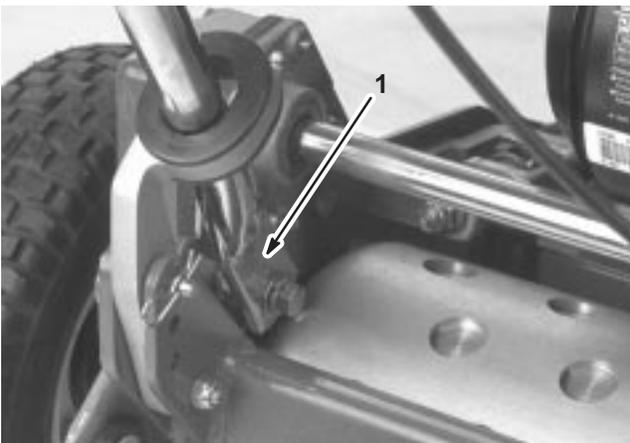

Figure 2
- Squeeze the handle ends inward and install them on the mounting pins (Fig. 2).
- Secure the handle ends to the mounting pins with the capscrews, washers, and lockwashers previously removed (Fig. 2).
- Secure the bottom of handle arms to each side of the mower with the capscrews and locknuts previously removed (Fig. 2). Ensure that you install the bushings in the handle arm mounting holes.
- Secure the handle arms to the rear of the frame with the hairpin cotters and ring pins previously removed (Fig. 2).